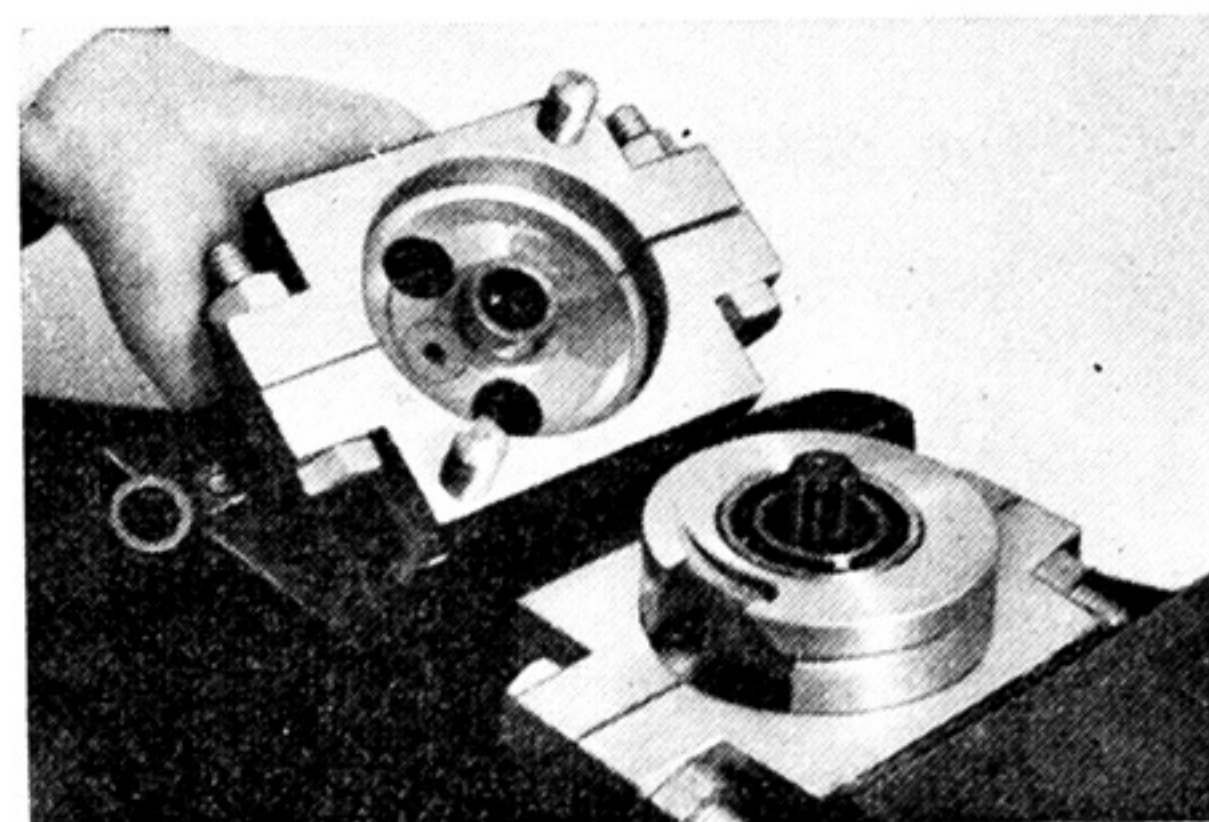

Fig. 3-16-9
- e. Fig. 3-16-9 shows the disassembled crankshaft ass'y. To remove the crank cover and bearing, use a press.